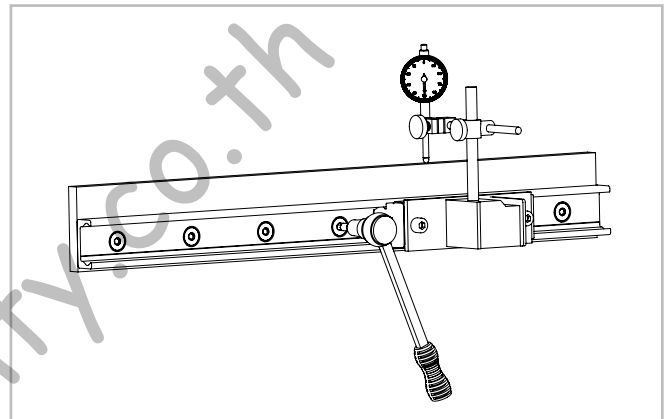

Fig. 102
(2) Install a dial indicator so that the offset of the rail to a reference line can be measured. Now position the slider in the center of the rail and set the dial indicator to zero. Move the slider back and forth between each two hole spacings and carefully align the rail. Fasten the three center screws of this area now with the specified tightening torque, see pg. fig. 102
(3) Now position the slider on one end of the rail and carefully align the rail to zero on the dial indicator.